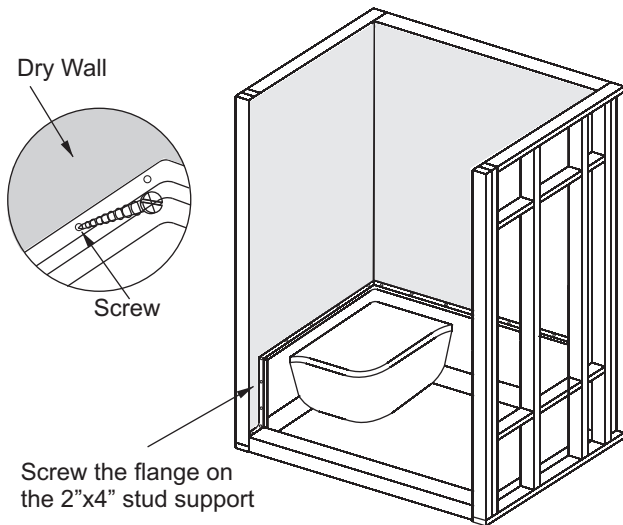

FIGURE 3
- The shower base is fastened in place using dry wall screws. Holes are to be drilled in the flange on both sides and across the top. The holes are to be drilled by the installer as illustrated in figures 3 - 4 on the following page.
- Carefully position the base section in the alcove and push flush against the framework walls as shown in figure 3.
- Fasten the flange of base section to studs support using drywall screws, as shown in Figure 3. Countersink for screw head flush fit on the acrylic flange. Please note to make sure that the unit is plumbed before fastening.